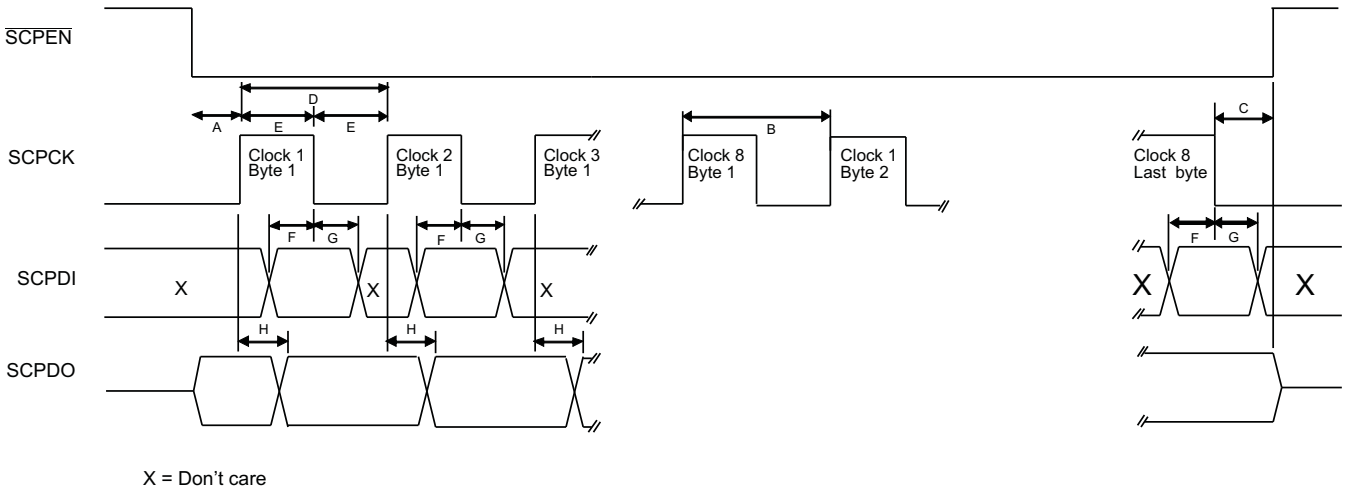

Figure 2. Serial Interface Timing
(1) See Figure 2
(2) There is no minimum speed for the serial port. It can be written to statically for diagnostic purposes.